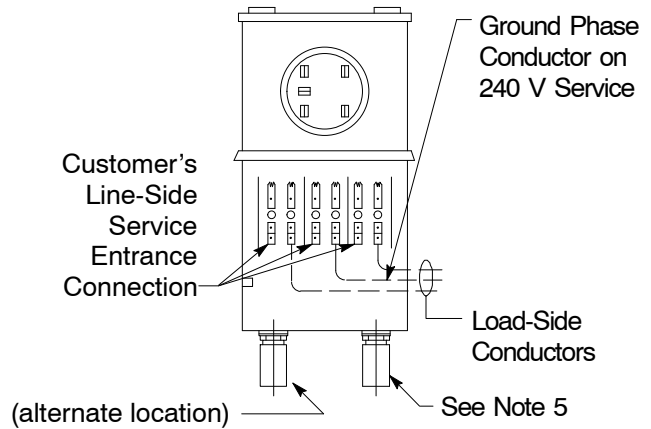

Figure 10
2. Figure 10 and 11 are applicable to maximum of 125 hp pump (self-contained) at 480 V or 277/480 V.